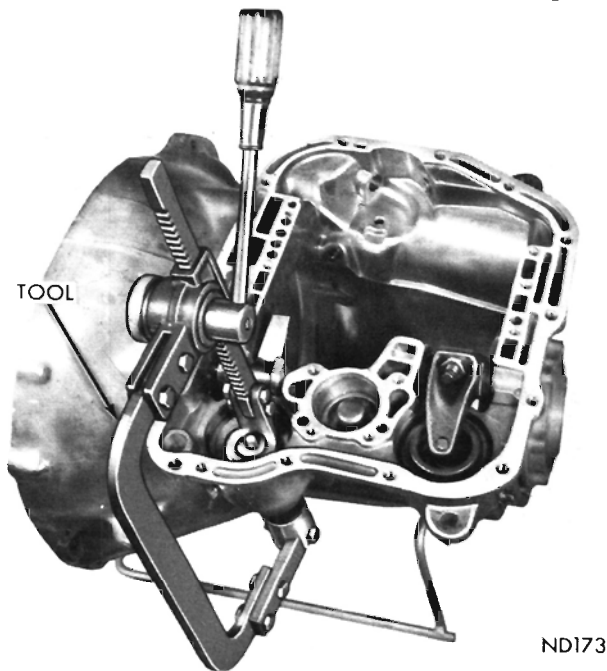

Fig. 48—Compressing Kickdown Servo Spring
- (1) Compress kickdown servo spring by using engine valve spring compressor, Tool C-3422, then remove snap ring (Fig. 48).
- (2) Remove rod guide, springs and piston rod from the case. Be careful not to damage piston rod or guide during removal.
- (3) Insert Tool C-484 inside piston and withdraw piston from the transmission case.